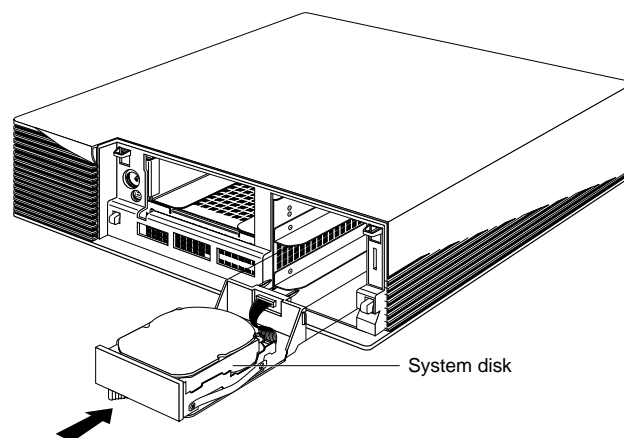

Figure 2-4 Installing the System Disk
3. Install the system disk, as shown in Figure 2-4. If you are not installing a system disk, skip to step 4.